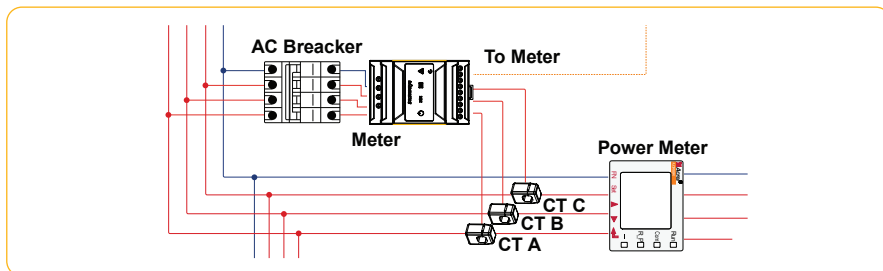

Figure 4-35 Meter wiring diagram
② The CTs have been connected to the Meter when you received them, and you just need to follow the wiring diagram in the Meter to connect CT, as shown in Figure 4-35.